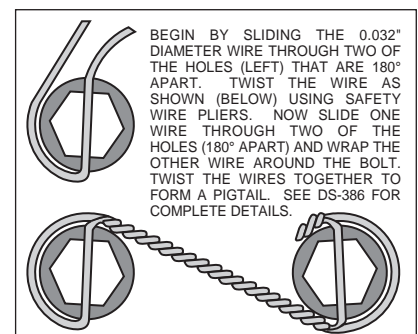

Figure 3. Safety Wire Diagram
- The spindle and caliper bracket (1) have been assembled at the factory for alignment purposes. Loosen the two bolts that secure the brackets together so that the bolts are hand tight only, this will enable the bracket assembly (1) to be adjusted to accommodate various spindle tolerances during assembly. Bolt the lower portion of the bracket assembly (1) to the backing plate face of the spindle using two bolts (2) and two lock nuts (3), hand tighten only. Install bolt (5) through caliper bracket (1), placing the spacer (4) between the bracket and the steering arm. Torque two bolts (2) to 47 ft-lb. Apply red *Loctite*® 271 to the bolt threads (5) and torque to 120 ft-lb. Remove one of the bolts that secure the bracket assembly (1) to each other. Apply red *Loctite*® 271 to the bolt threads and reinsert into the bracket assembly. Repeat this procedure for the second bolt. Torque these two bolts to 30 ft-lb. **NOTE:** Be sure the heads of the bracket assembly (1) insert nuts are facing outward toward the wheel.
- Install five new wheel studs (6) into the hub (7). Torque to 77 ft-lb. **NOTE:** There are two five lug patterns in the hub (5 x 4.50 and 5 x 4.75). Make sure of the correct hole pattern for the correct wheel application before installing studs into hub.
- Pack the large inner bearing cone (8) with high temperature disc brake bearing grease (available from your local auto parts store) and install into the backside of the hub (7).
- Install the grease seal (9) by pressing into the backside of the hub (7).
- Attach rotor adapter (10) to rotor (11) using eight bolts (12). Torque bolts (12) to 180 **in-lb**. Safety wire bolts (12) using standard 0.032 inch diameter stainless steel safety wire as shown in Figure 3. Please refer to Wilwood's data sheet DS-386 (available at [www.wilwood.com/pdf/ds386.pdf](http://www.wilwood.com/pdf/ds386.pdf)) for complete safety wire installation instructions. **NOTE:** The flat side of the rotor (11) lugs faces toward the rotor adapter (10) with the dished side of the rotor adapter (10) facing away from the rotor (11).
- Mount the adapter/rotor assembly (10 and 11) to the hub (7) using five bolts (13). Torque bolts (13) to 22 ft-lb. Safety wire bolts (13).
- Pack the small outer bearing cone (14) with high temperature disc brake bearing grease. Lightly coat the spindle bearing surfaces with bearing grease. Slide the hub/rotor assembly (7 and 11) with outer bearing cone (14) onto the spindle. Secure using spindle washer (15), existing adjusting nut and nut locking device.